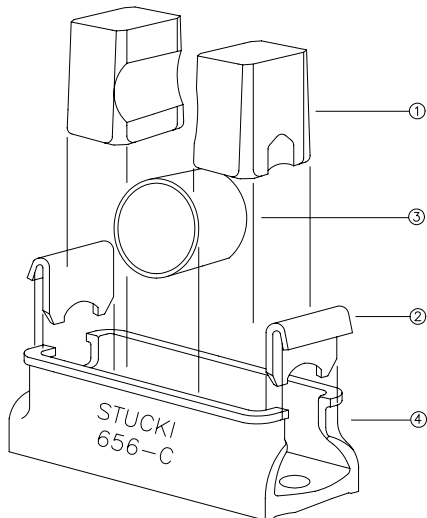

Figure 1. 656-CR Components
The Stucki model 656-CR is a non-metal capped constant contact standard travel side bearing. The 656-CR side bearing\* consists of: ① two RB-11 resilient blocks, ② two steel end-closures, ③ one 4" diameter roller and ④ one 656-C single roller side bearing cage. The 656-CR components shown in Figure 1 should not be assembled into any other side bearing housing unless specifically approved by A. Stucki Company.
#### VI. INSTALLATION OF COMPONENTS INTO CAGE (see Figure 1)